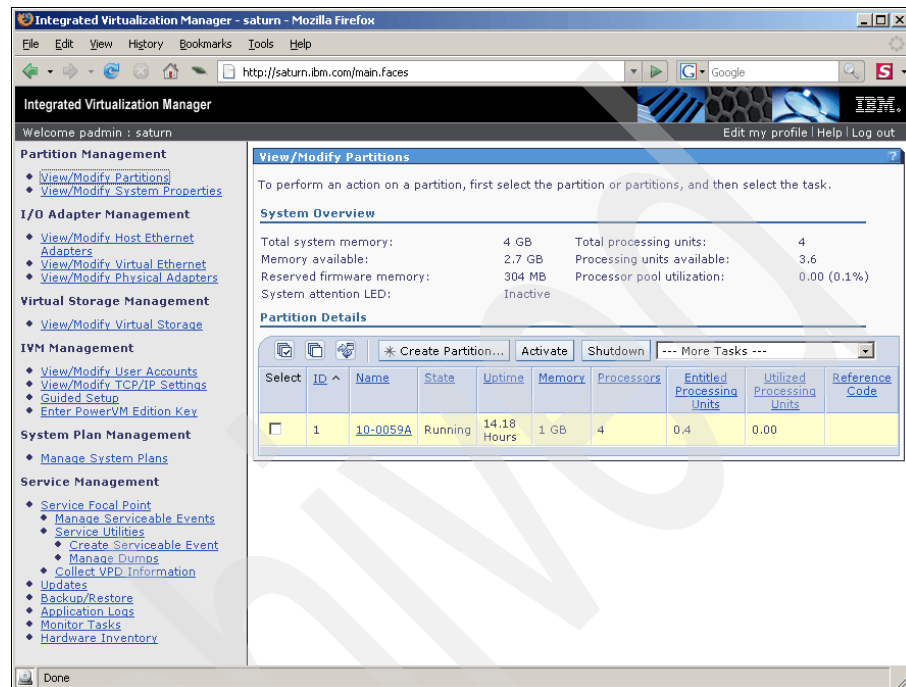

Figure 6-12 View/Modify Partitions page after login
2. Depending on the setup of your IVM, you will be at the Guided Setup or on the View/Modify Partitions page. Figure 6-12 shows the usual page that you see after logging in when the IVM is fully configured.